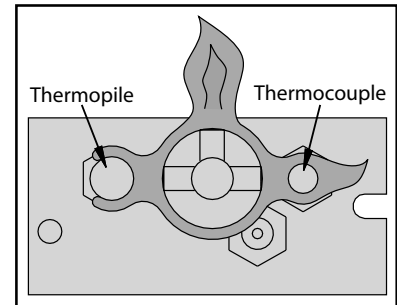
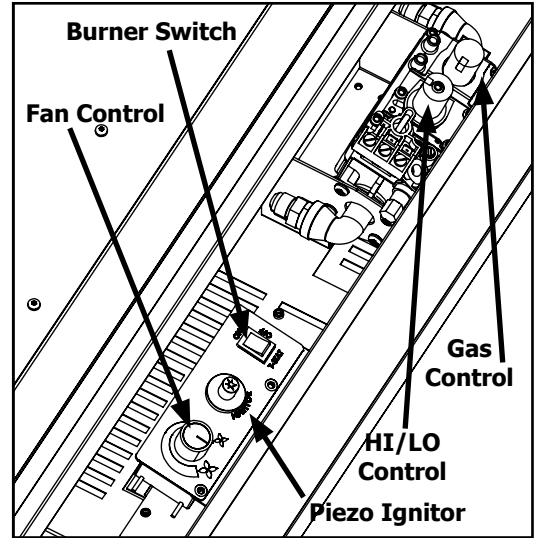

Figure 3. Pilot Flame
Figure 5. Control Panel
1. Turn off the gas to the fireplace. **If not recently done, remove the glass and let the unit air out for at least five (5) minutes to clear out any gas.** Turn on gas to the heater.
2. Be sure there is no burner media in the protected pilot area of the burner pan. Start the pilot by pressing the gas control knob (Figure 5) and turning it to PILOT. Turn the gas control knob to pilot and push in, press the piezo ignitor several times until the pilot light starts. Hold the gas control knob in for at least 30 seconds once lit. Check that the pilot has fully engulfed the thermocouple assembly (see Figure 3). The pilot should now stay lit on its own.
Flip switch to OFF to turn off burners, turn the gas control knob to OFF to extinguish the pilot flame. Keep the pilot flame **OFF** when not in use. If the fireplace is to be serviced, turn the gas shut off valve to OFF (DO NOT FORCE IT) and disconnect all electrical power sources. See Figure 5 for control panel layout.